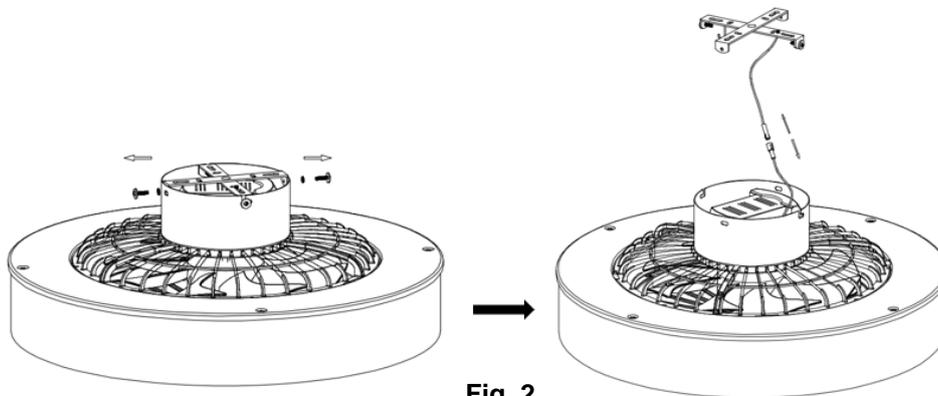

Fig. 2
- Remove the mounting brack from the canopy of the fan assembly by loosening the screws on the side. Loose the earth wire connector. (Fig.2)